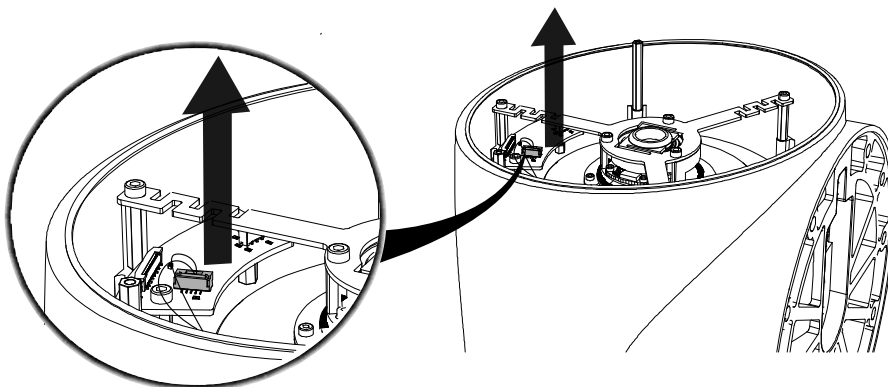

Figure 2-3: Brake wire of joint 1 and 2 of Zu 20
3. Unplug the brake wire on the driver board (shown in Figure 2-3 below).